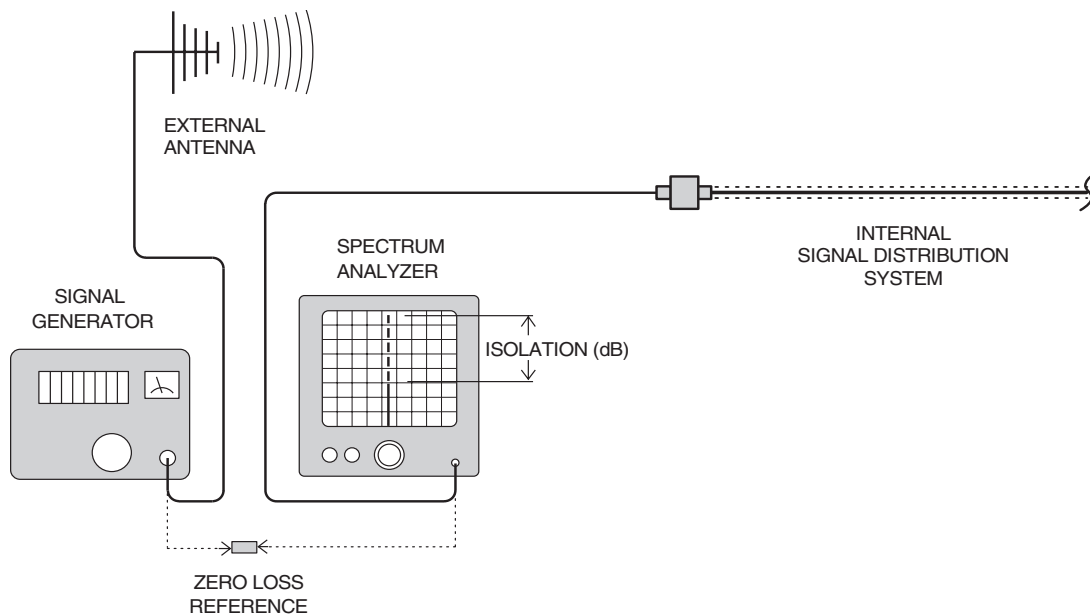

Figure 2: Typical test equipment setup for measuring antenna isolation.
- 3) Connect the test leads of the signal generator and the spectrum analyzer together using a female barrel connector, see **Figure 2**. Observe the signal on the analyzer and adjust the input attenuator of the spectrum analyzer for a signal level that just reaches the 0 dBm level at the top of the graticule.
- 4) Referring to figure 2, connect the generator test lead to one side of the signal distribution system (external antenna) and the spectrum analyzer lead to the other (internal distribution system) and observe the signal level. The difference between this observed level and 0 dBm is the isolation between the sections. If the signal is too weak to observe, the spectrum analyzer's bandwidth may have to be narrowed and its input attenuation reduced. Record the isolation value. **The isolation value measured should exceed the signal boosters gain figure by at least 15 dB.**